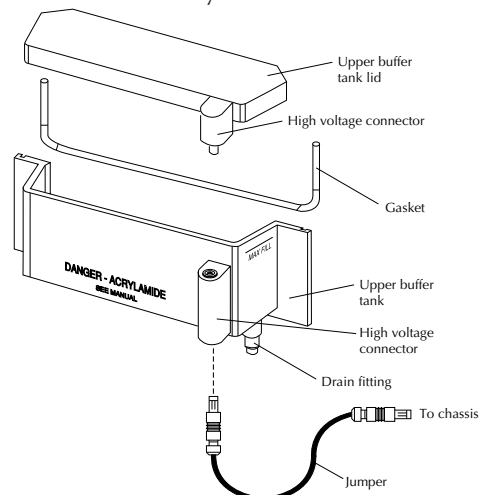

Figure 5-14. Upper buffer tank connections.
16.	Place the upper and lower buffer tank lids onto the tanks. Insert the power cable on the upper buffer tank and connect it to the high voltage connector on the instrument chassis, as shown in Figure 5-14. Make sure that both connectors are fully inserted.
1.	Open the instrument door and remove the upper buffer tank lid (Figure 5-14). Flush the wells completely with buffer using a 20 cc syringe to remove urea or other particulate matter that may have settled into the wells during pre-electrophoresis.